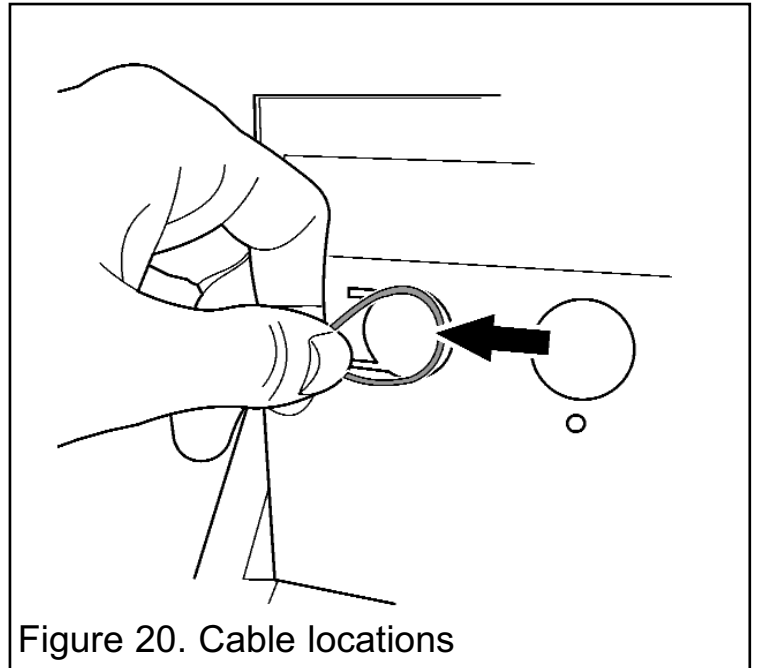

Figure 20. Cable locations
8. The convection box has two slots at each side of the flue outlet. Loop one end of each cable and pass the loop into the slots (See figure 20). Give the cables a pull so that they grip.